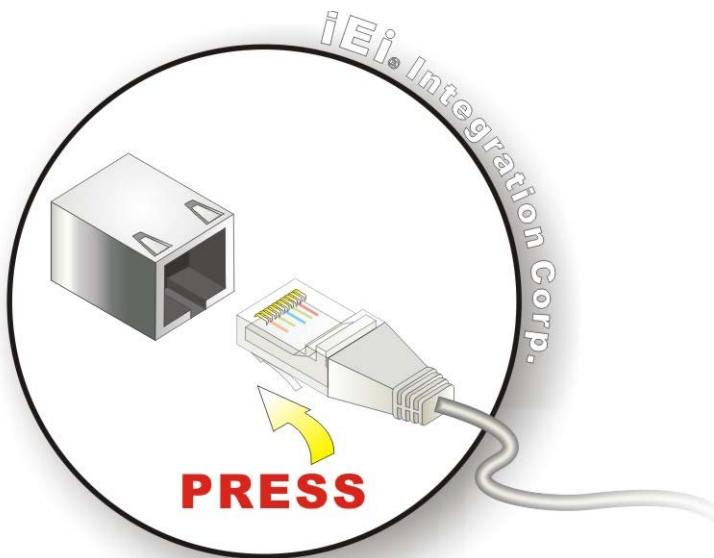

Figure 4-13: LAN Connection
**Step 2: Align the connectors.** Align the RJ-45 connector on the LAN cable with one of the RJ-45 connectors on the KINO-ABT-i2. See **Figure 4-13**.